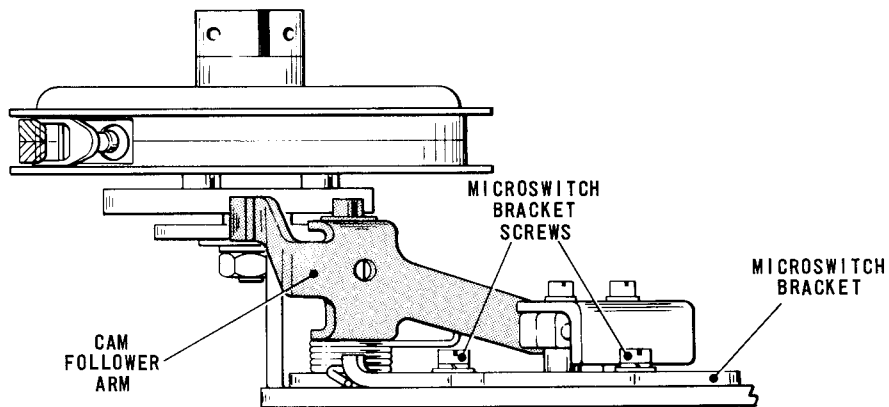

Fig. 4.90 END-OF-LINE INDICATOR TRIP MECHANISM
- 113.2 To adjust, slacken the screws securing the microswitch bracket, Fig.4.90, and swing the microswitch clear of the cam follower arm. With the typehead at the point at which the lamp is required to light, slowly swing the microswitch bracket round until the lamp just lights and secure the bracket in this position with its screws.